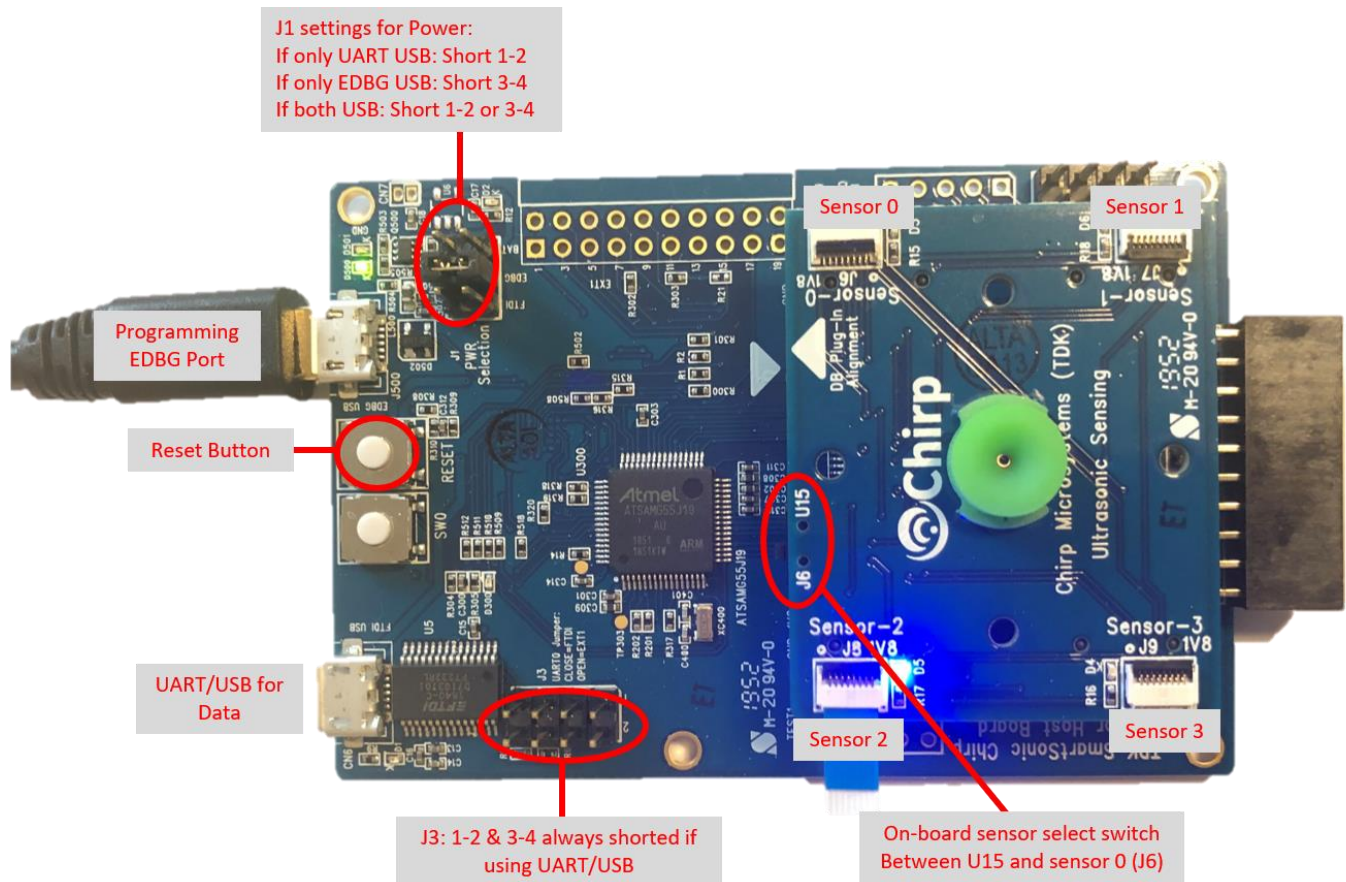

Figure 1 - SmartSonic v1 with CH201 Daughterboard
4. Connect the Chirp sensor daughterboard to the SmartSonic v1 board. Be careful to align the white arrows on the boards, as shown in Figure 1.
6. Connect the SmartSonic v1 board to a Windows PC with the USB cable. Configure the jumpers on the board as shown in Figure 1 with J1 in EDBG USB mode (short pins 3-4).
1. Set up the SmartSonic v1 board jumper J1 as shown in Figure 1.